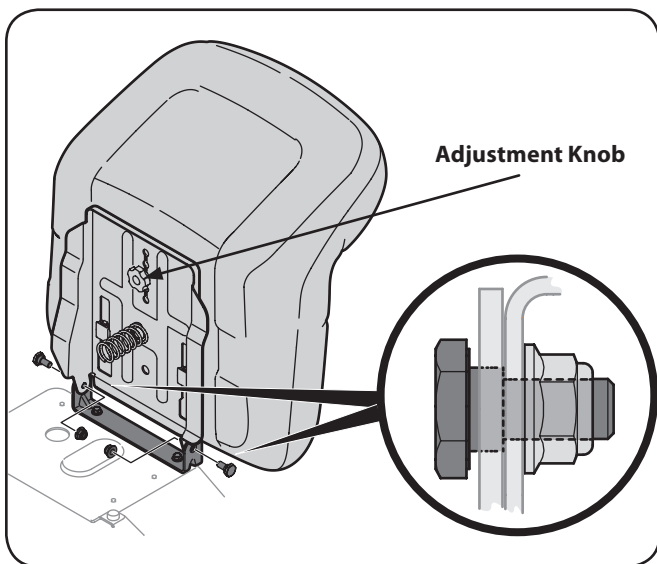

Figure 3-8
6. Install the two shoulder bolts and lock nuts removed from the seat mounting bracket in Step 1. See Figure 3-8.
7. To adjust the position of the seat, remove the adjustment knob on the bottom of the seat. Slide the seat forward or backward as desired. Retighten the adjustment bolt. Refer to Figure 3-8.